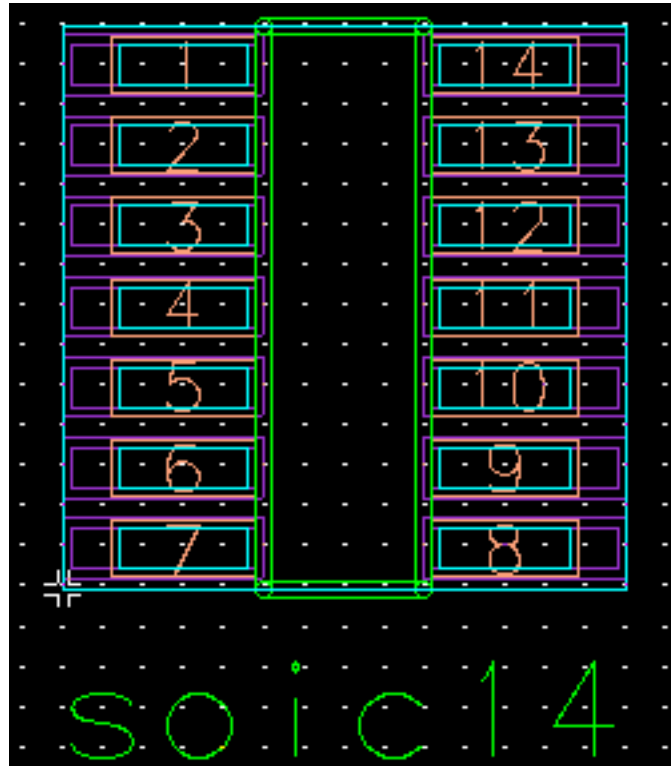

Figure 3-30. The Placement Outline and Reference Designator on SOIC14
13. Add the reference designator and placement outline as shown in Figure 3-30.